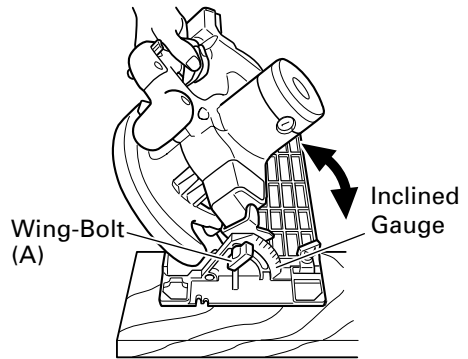

Fig. 15
**⚠ WARNING:** If the wing bolt (A) is loose, injury can result. Tighten it securely after adjustment.
As shown in Fig. 15 by loosening the wing bolt (A) on the inclined gauge, the saw blade may be inclined to a maximum angle of 45° in relation to the base. Always insure that the wing bolt (A) is thoroughly tightened after making the desired adjustment.